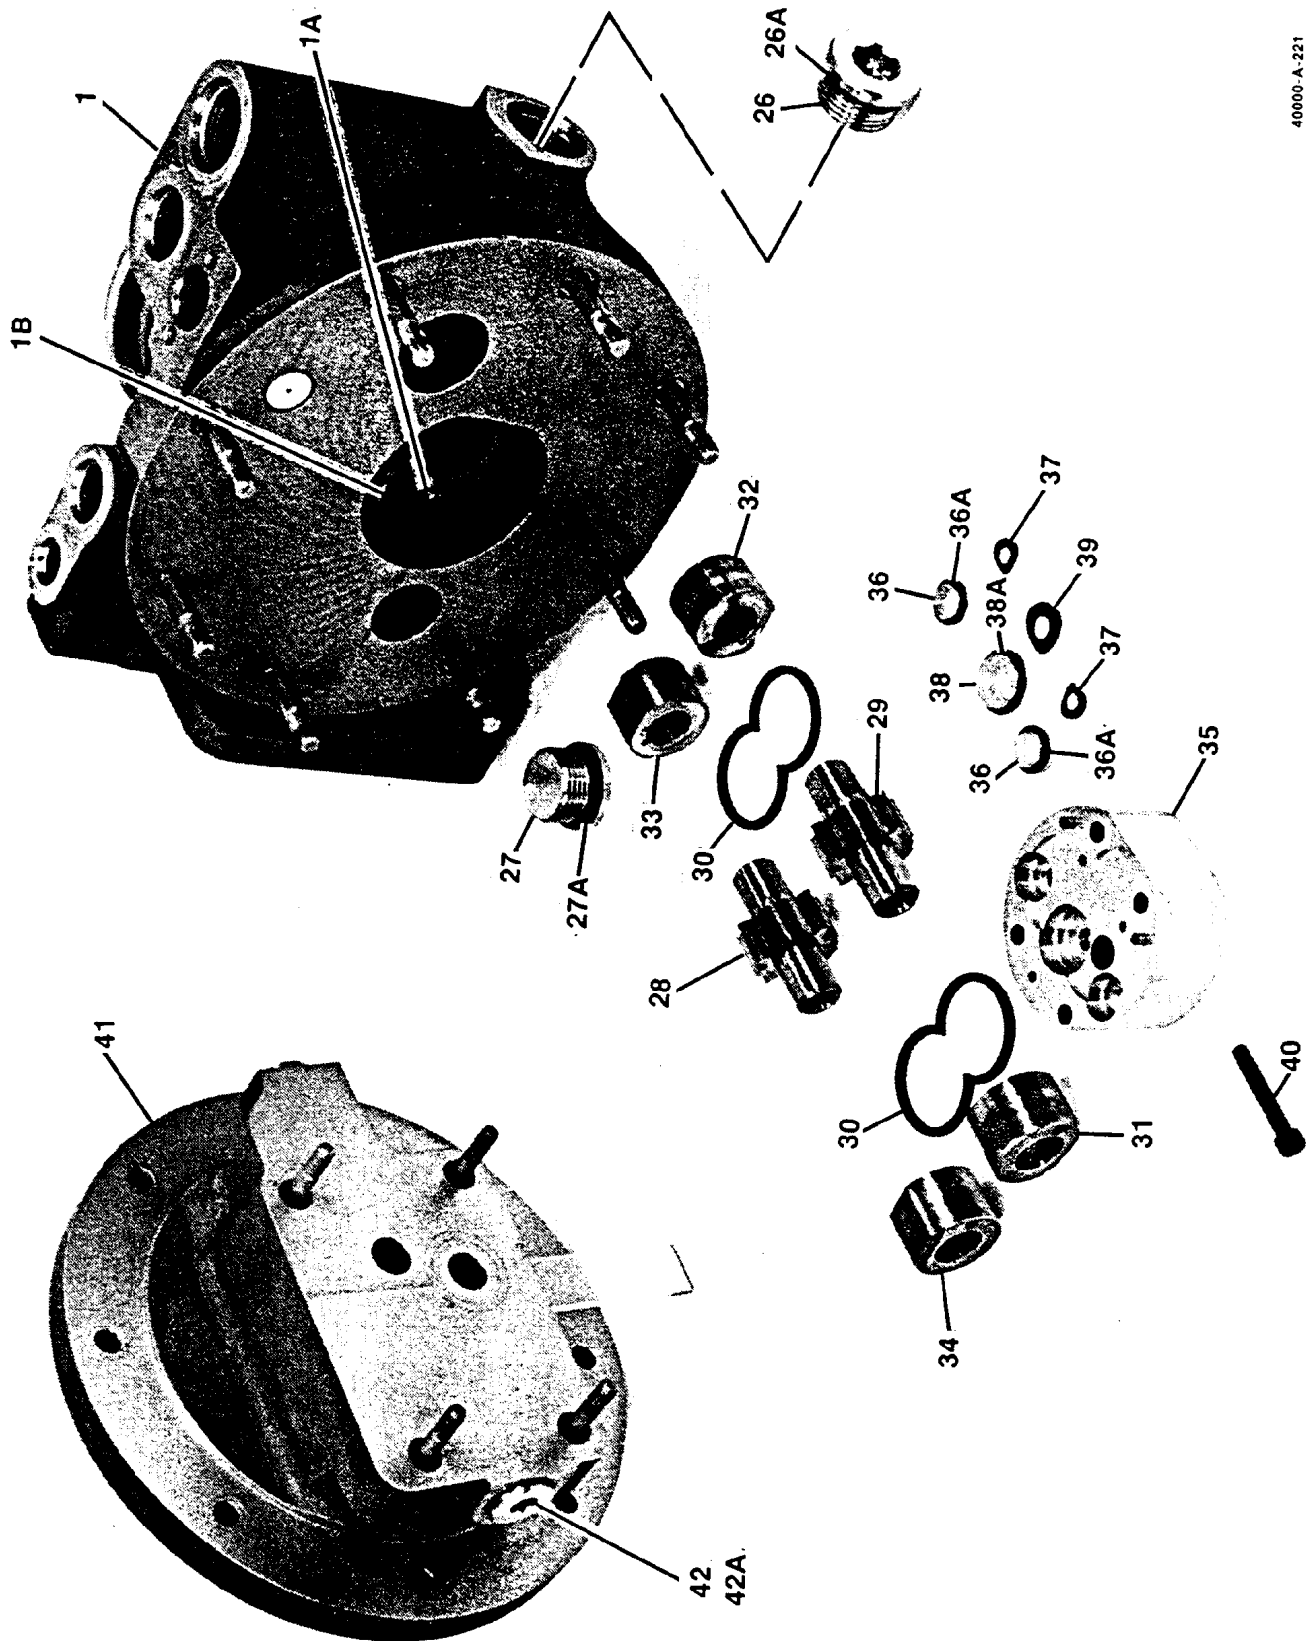

Figure 5-2. Gear Pump Parts
**Parts List for Gear Pump Assembly (Figure 5-2)**